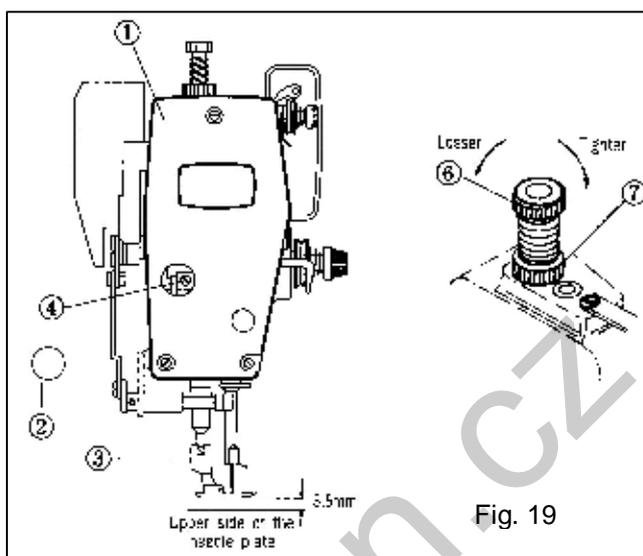

Fig. 19
A. As in Fig.19, remove the rubber plug (2) in the face plate and place the presser foot (3) on the needle plate. Then, loosen the presser bar fixing screw (4) and adjust the height of the presser bar. The presser foot lifter (3) will fall when the presser bar is lifted and rise when the presser bar is moved down. Move the presser foot lifter (5) manually to place the bottom face of the presser foot 5,5 mm above the top face of the needle plate and tighten the presser bar fixing screws firmly.
B. The tension of the presser foot will grow stronger when the tension adjusting screw (6) is turned clockwise and weaker when turned counterclockwise. Make sure to screw in the fixing nut (1) after adjustment. (Fig.19)
C. Loosen set screw (1) and adjust the presser bar height or the angle of the presser foot. After adjustment, securely tighten the setscrew.